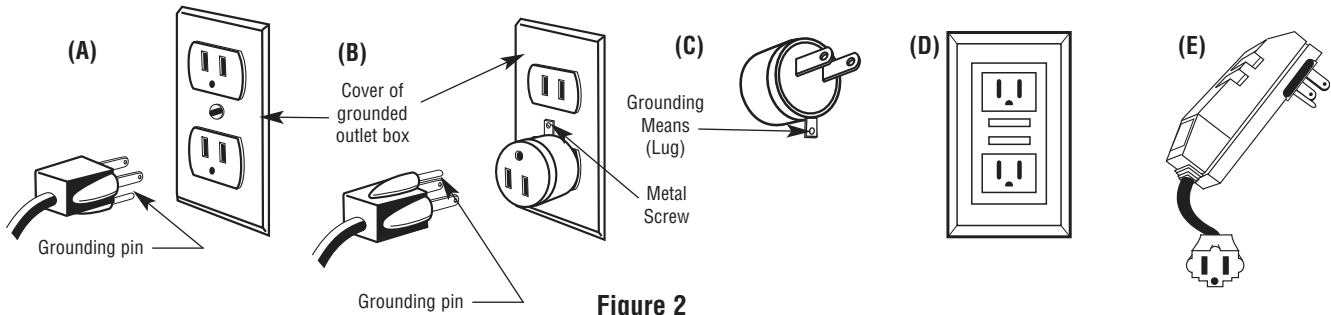

Figure 2
This tool is intended for use on a circuit that has an outlet that looks like the one illustrated in Figure 2. The tool has a grounding plug that looks like the plug illustrated in Figure 2(A). A temporary adapter, which looks like the adapter illustrated in Figure 2(B) and 2(C), may be used to
connect this plug to a 2 pole receptacle as shown in Figure 2(B) if a properly grounded outlet is not available. The temporary adapter should be used only until a properly grounded outlet can be installed by a qualified electrician. The green-colored rigid ear, lug, and the like, extending from the adapter must be connected to a permanent ground such as a properly grounded outlet box.
Additionally, water pump requires the use of a Ground Fault Circuit Interrupter. Therefore, when using the water pump receptacle, this tool must be plugged into a properly installed Ground Fault Circuit Interrupter outlet. See Figure 2(D). If a Ground Fault Circuit Interrupter outlet is not available, Pearl Abrasive Co. has it available as an accessory item. A plug-in Ground Fault Circuit Interrupter may be plugged into a properly installed and grounded 3-pole outlet. Refer to Figure 2(E).